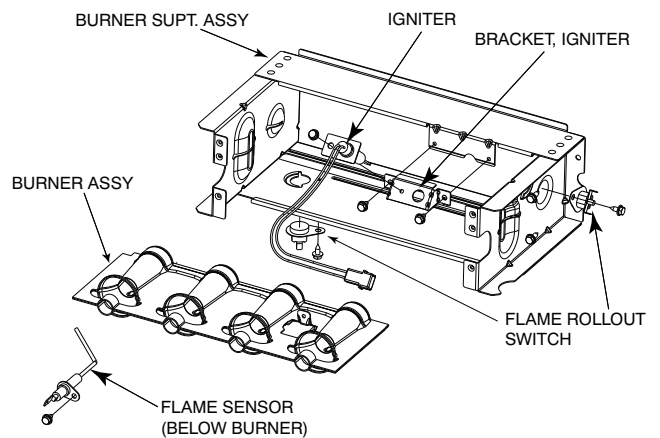

Fig. 69 - Burner Assembly
6. Remove screws attaching burner assembly to cell panel. See Fig. 69.